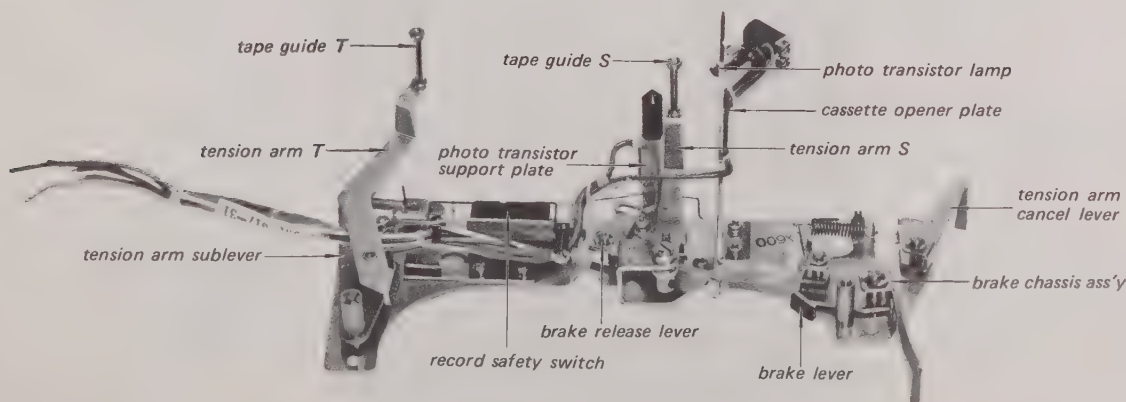

Fig. 5-32. Subchassis removal
7. Rotate the Brake Plate counterclockwise (See Fig. 5-32). Lift off the Subchassis.